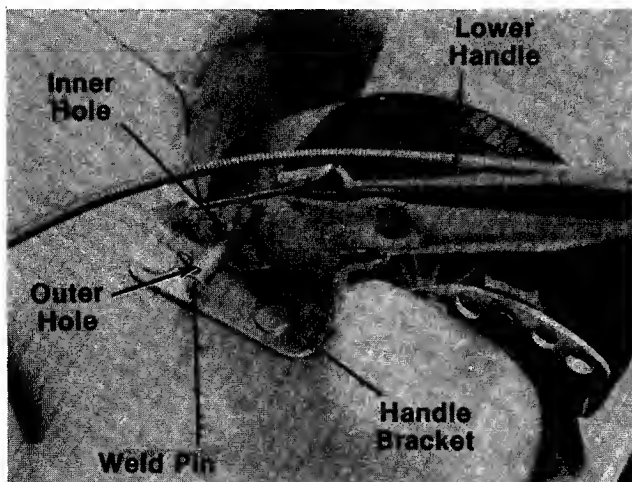

FIGURE 4.
- B. Place lower handle in position over weld pins in handle mount brackets on deck, using the bottom hole in the lower handle. Make certain the instruction label on the lower handle can be read from the operating position. Secure with hairpin cotter (D) in inner hole on weld pin. See figure 4.